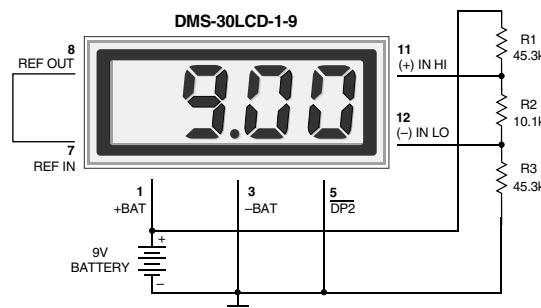

Figure 8. Power Supply Monitor
- Power Supply Monitoring:** A popular application for DATEL's low-power LCD meters is monitoring the supply voltage in battery-operated portable equipment. Figure 8 demonstrates how a 9V-powered DMS-30LCD can be used to monitor its own supply. The meter used is the DMS-30LCD-1-9. A three-resistor voltage divider is used to attenuate the battery voltage and also to satisfy the requirement that the input voltages applied to pins 12 and 11 be at least 1.5 Volts above and below the battery voltage applied to pins 1 (+BATTERY) and 3 (-BATTERY). The divider should be designed so that 1/10th the battery voltage falls across the inputs to the meter: